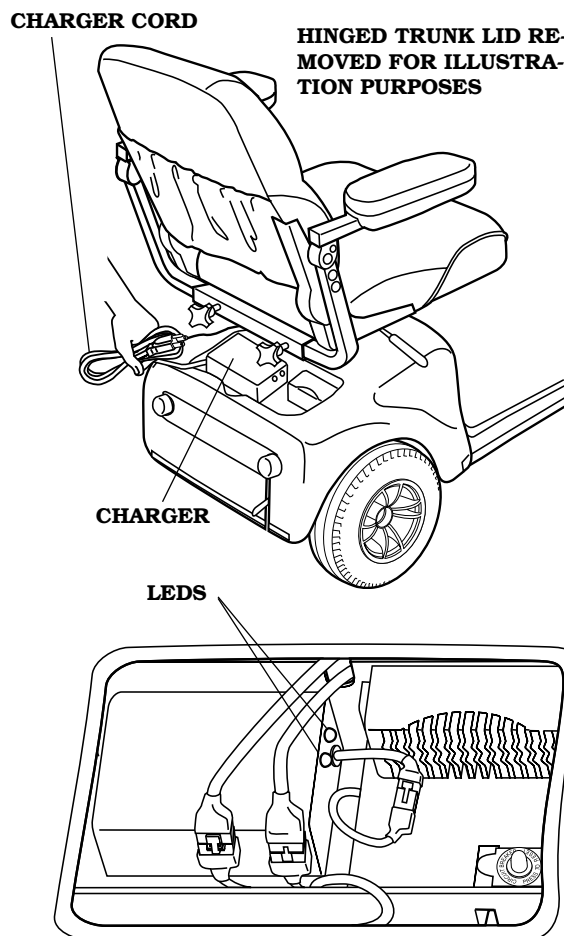

FIGURE 47. CHARGING THE BATTERIES
5. Two amber LEDs (Light Emitting Diode) will illuminate. See figure 47.